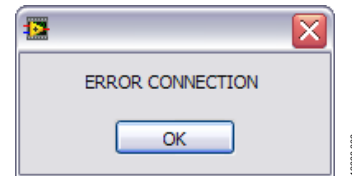

Figure 9. ERROR CONNECTION Window
4. If the EVAL-SDP-CB1Z is not connected to the EVAL-AD7293SDZ, a message box appears (see Figure 9). Check that the connection between the EVAL-SDP-CB1Z and the EVAL-AD7293SDZ, and run the program again.